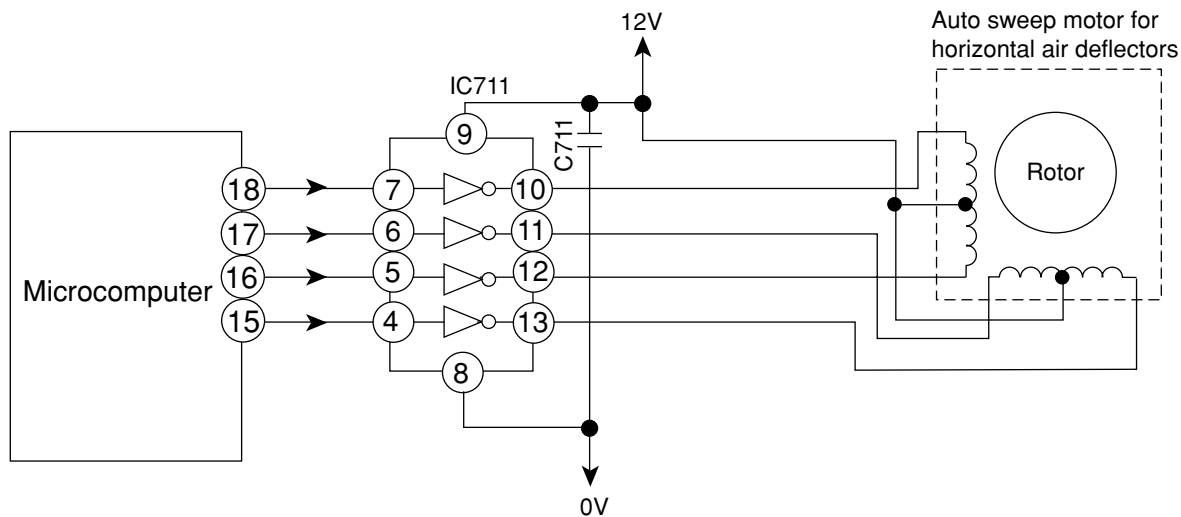
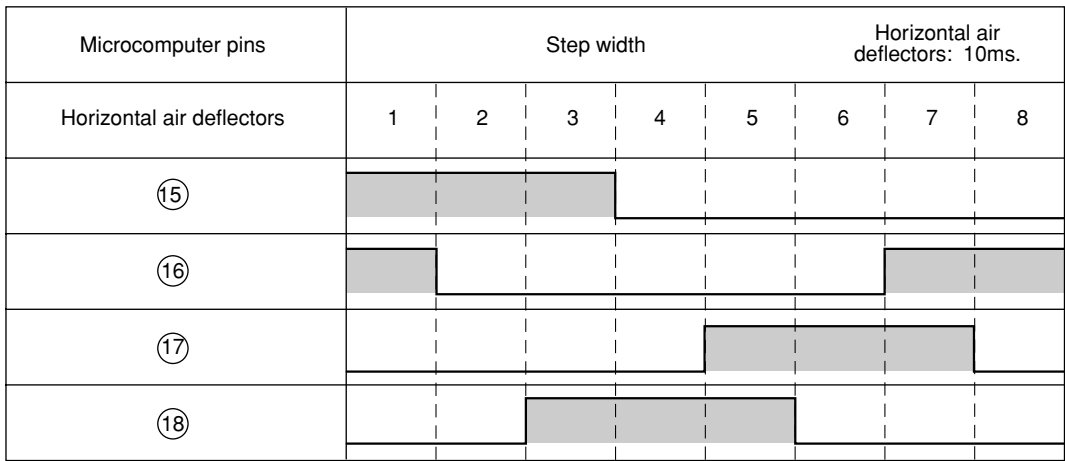

Fig.4-1
Fig.4-2 Microcomputer Output Signals
- Fig. 4-1 shows the Auto sweep motor drive circuit; the signals shown in Fig.4-2 are output from pins ⑮ – ⑱ of microcomputer.
- As the microcomputer's outputs change as shown in Fig.4-2, the core of the auto sweep motor is excited to turn the rotor. Table 4-1 shows the rotation angle of horizontal air deflectors.